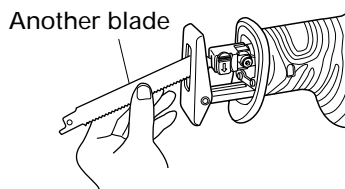

Fig. 11
- (1) If a part of the broken saw blade is sticking out of the small slit of the plunger, pull out the protruding part and take the blade out.
- (2) If the broken saw blade is hidden inside the small slit, hook the broken blade using a tip of another saw blade and take it out. (Fig. 11)